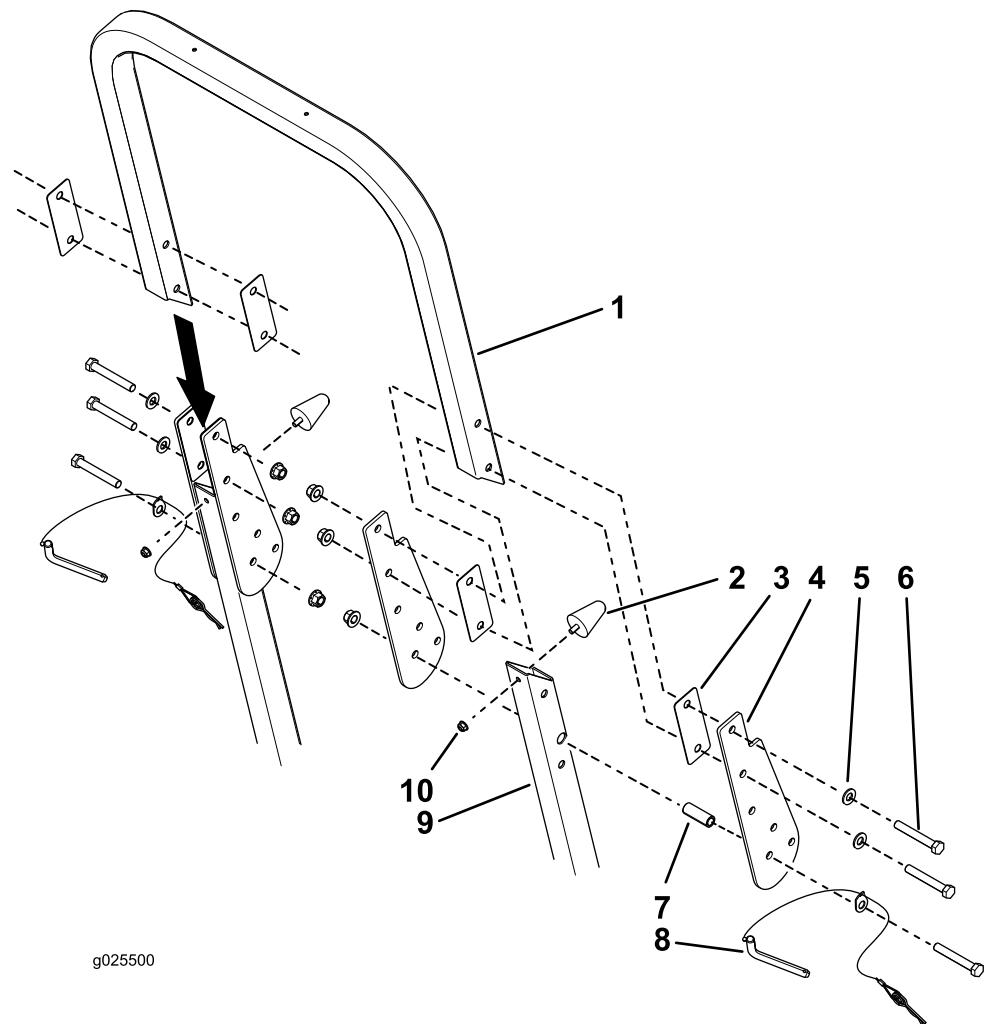

Figure 1
2. Install the rubber bumpers to the lower part of the ROPS with 2 nuts (5/16 inch) (Figure 1).
3. Install the pivot brackets and spacers to the upper part of the ROPS with the previously removed nuts and bolts (Figure 1).
4. Install the upper part of the ROPS, round spacer, and pin assembly to the lower part of the ROPS with the previously removed nuts and bolts (Figure 1).